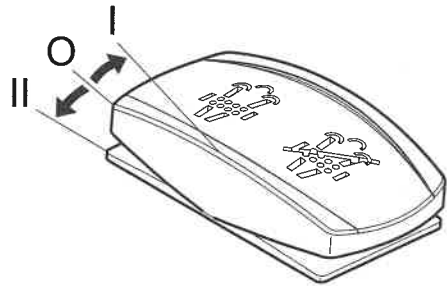

Figure 25
4. Activate regeneration switch (Figure 25) to start regeneration process.